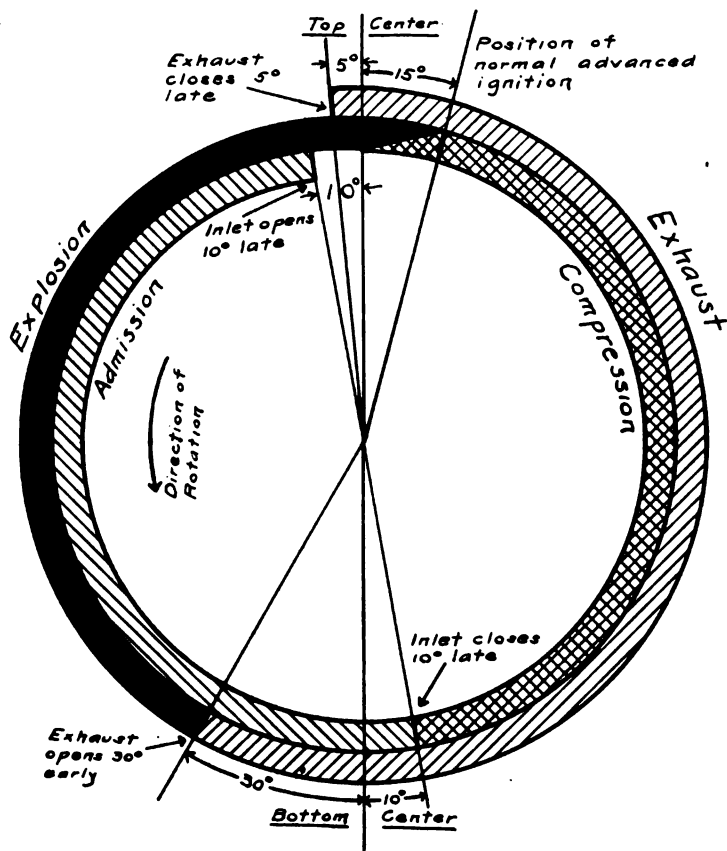

Fig. 33.
- 222** — *a. Fig. 33 gives a diagram for the valve opening and closing of a "75" engine, and shows the actual duration of the different strokes. When the piston is passing through top or bottom center, it is practically at a standstill, during which time the crankshaft, however, is in uniform circu-*